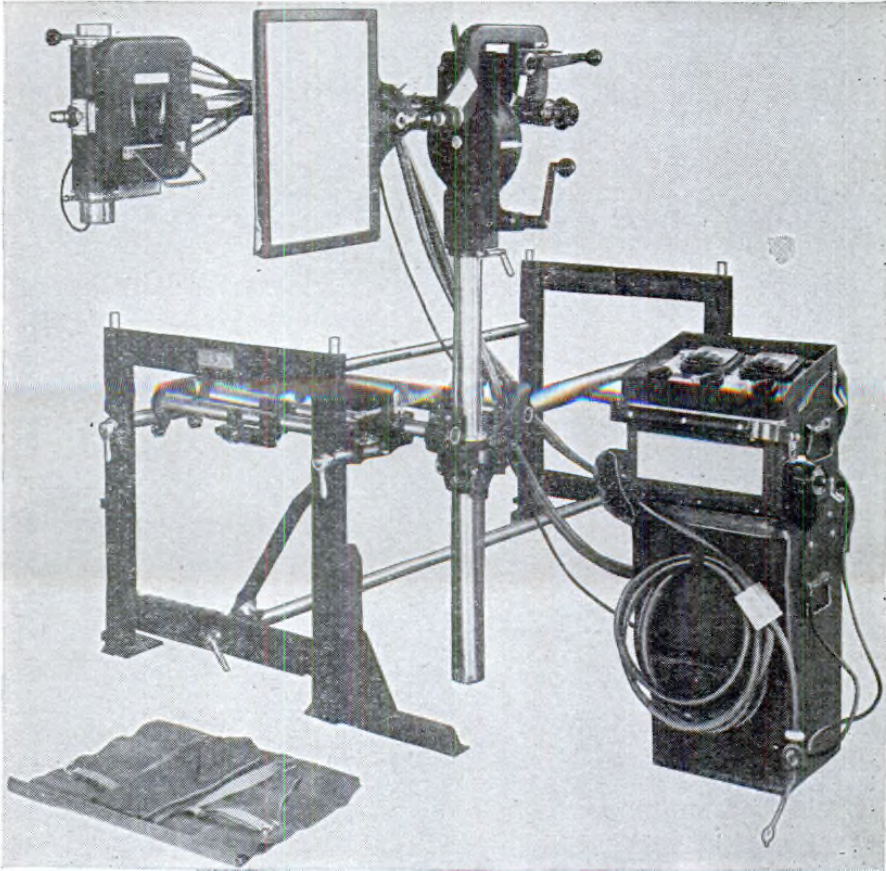

Figure 43. X-ray field unit table unit, standing fluoroscopic position.
(2) For vertical fluoroscopy in the standing or sitting position, proceed as follows (figs. 43 and 44):